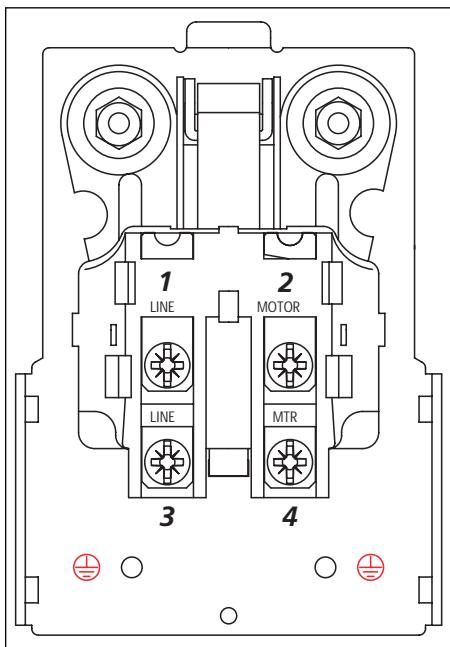

Figure 4
8. Position black motor wire underneath screw head #4 (See Fig. 4), then tighten screw to secure wire. Position black line wire underneath screw head #3, then tighten screw to secure wire.
9. Position white line wire underneath screw head #1, then tighten screw to secure wire. Position white motor wire underneath screw head #2, then tighten screw to secure wire (See Fig. 4).